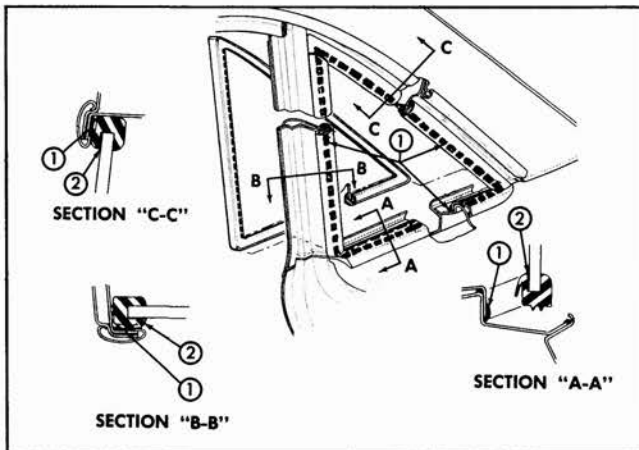
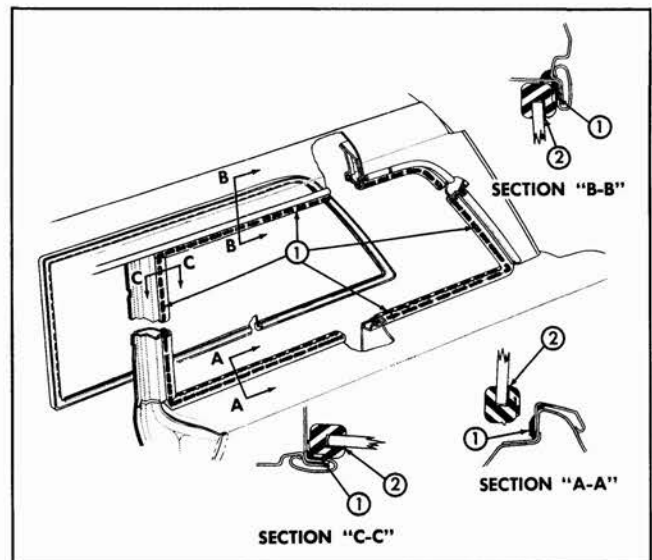

Fig. 14-9 Rear Quarter Window Sealing
Fig. 14-10 Rear Quarter Window Sealing - Station Wagon
3. To install rear quarter window, first clean off all old sealer from rubber channel and window opening rabbet. Install rubber channel to window. Apply a bead of medium-bodied sealer to wall of window opening rabbet, completely around window opening to effect a seal between body and rubber channel ("1" in Fig. 14-9 for "19" style, and Fig. 14-10 for "35" style).
4. Position window assembly into opening and loosely install window retainers. Using a pressure type applicator, apply weatherstrip adhesive (black) between rubber channel and outside surface of glass ("2" in Fig. 14-9 for "19" style and Fig. 14-10 for "35" style).